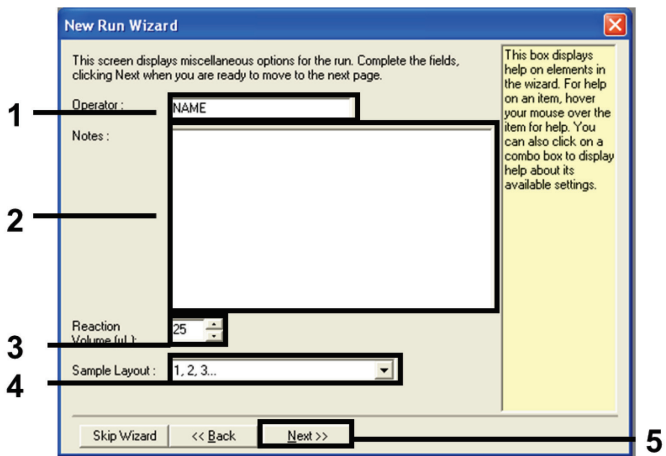

Figure 2. Entering operator name and reaction volumes.
4. Enter the name of the operator in the **Operator** field. Add any notes and set the value in the **Reaction Volume** field as **25**. Ensure that the values in the **Sample Layout** field is set as **1, 2, 3...** Click **Next** (Figure 2).